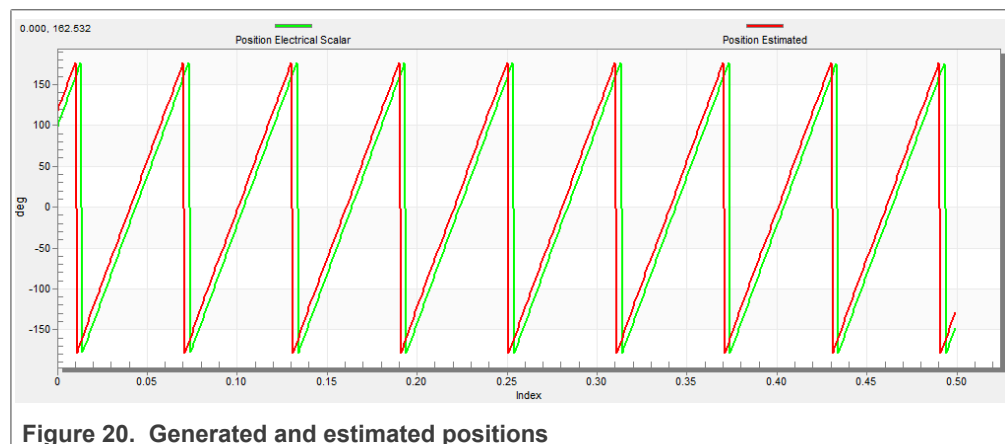

Figure 20. Generated and estimated positions
6. Select the "Position" recorder to check the observer functionality. The difference between the "Position Electrical Scalar" and the "Position Estimated" should be minimal (see Figure 20) for the Back-EMF position and speed observer to work properly. The position difference depends on the motor load. The higher the load, the bigger the difference between the positions due to the load angle.